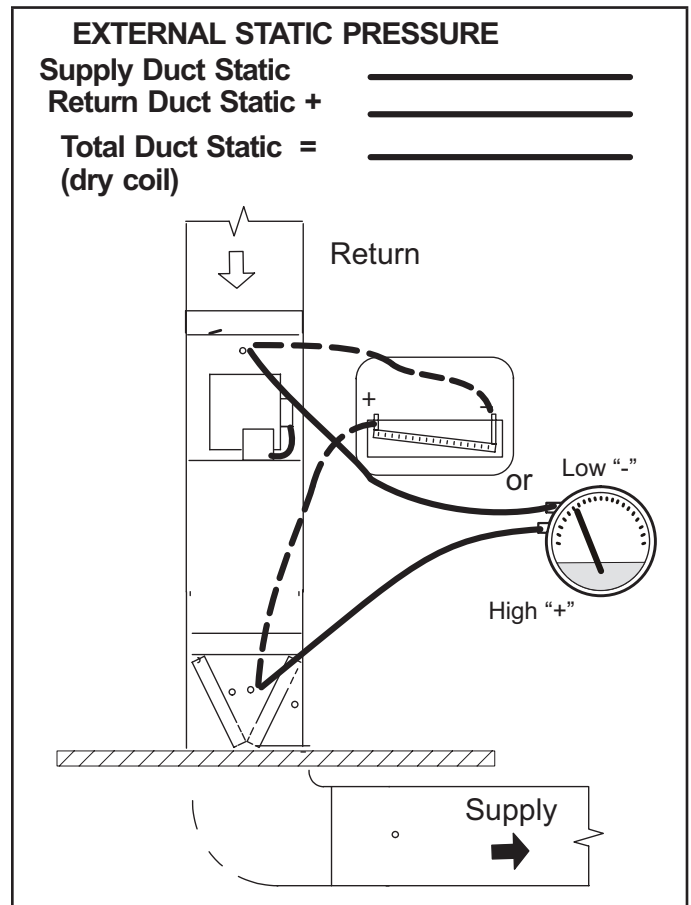

FIGURE 56
- 1 - Tap locations shown in FIGURE 56.